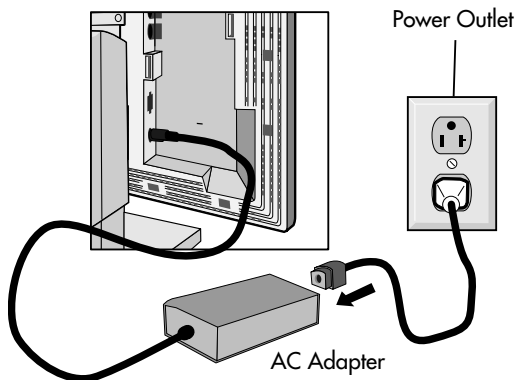

Figure E.1
5. Connect one end of the power cord to the AC adapter and the other end to the power outlet (Figure E.1).